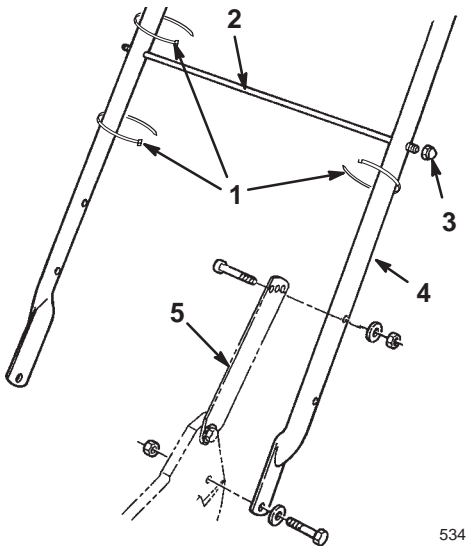

Figure 2
2. Secure the handle latches to the handle with 2 cap screws (5/16-18 x 1-1/2 in.), washers, and nylon insert locknuts (Fig. 2).
3. Slide the bag support rod through the second from the top mounting holes in the handle and secure each end with a cap locknut (Fig. 2).